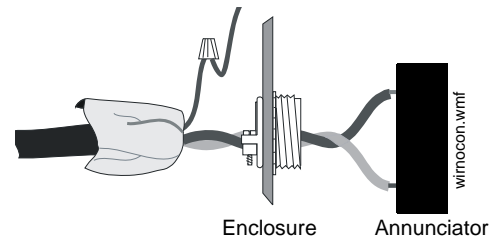

Figure 5.11 Terminating the Shield
- **When the EIA-485 shield is not in conduit:** Terminate the shield at the outside of the FACP backbox (*ground*). Do not allow the shield to enter or even touch the cabinet. Between annunciators, wire-nut multiple shields together *outside* of the respective enclosures (see Figure 5.11).